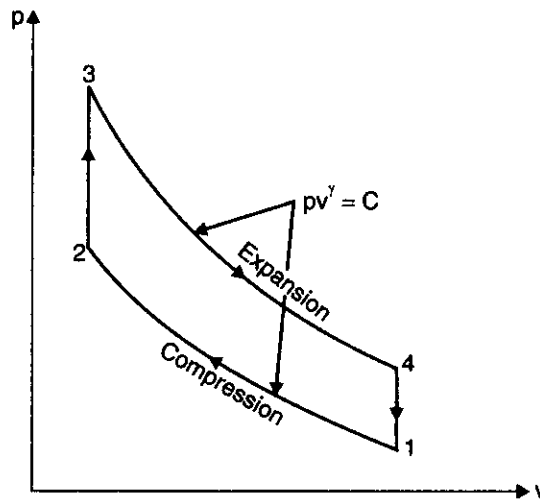

Fig. 13.7
**Solution.** Refer Fig. 13.7. Given :  $p_1 = 100 \text{ kPa} = 10^5 \text{ N/m}^2$  or 1 bar ;